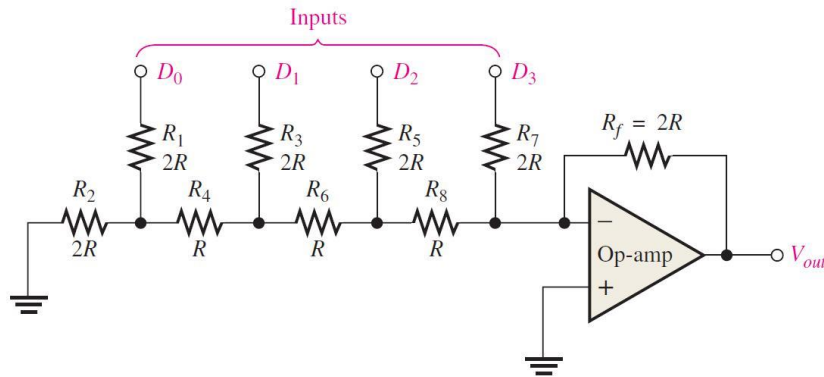

FIGURE 2.4 4-bit R/2R ladder Digital-to-Analog Converter
Another method of digital-to-analog conversion is the R/2R ladder, as shown in Figure 2.4 for four bits. It overcomes one of the problems in the binary-weighted-input DAC in that it requires only two resistor values.
3. Construct the 4-bit R/2R ladder DAC as in figure2.4 using LM741 Op-Amp